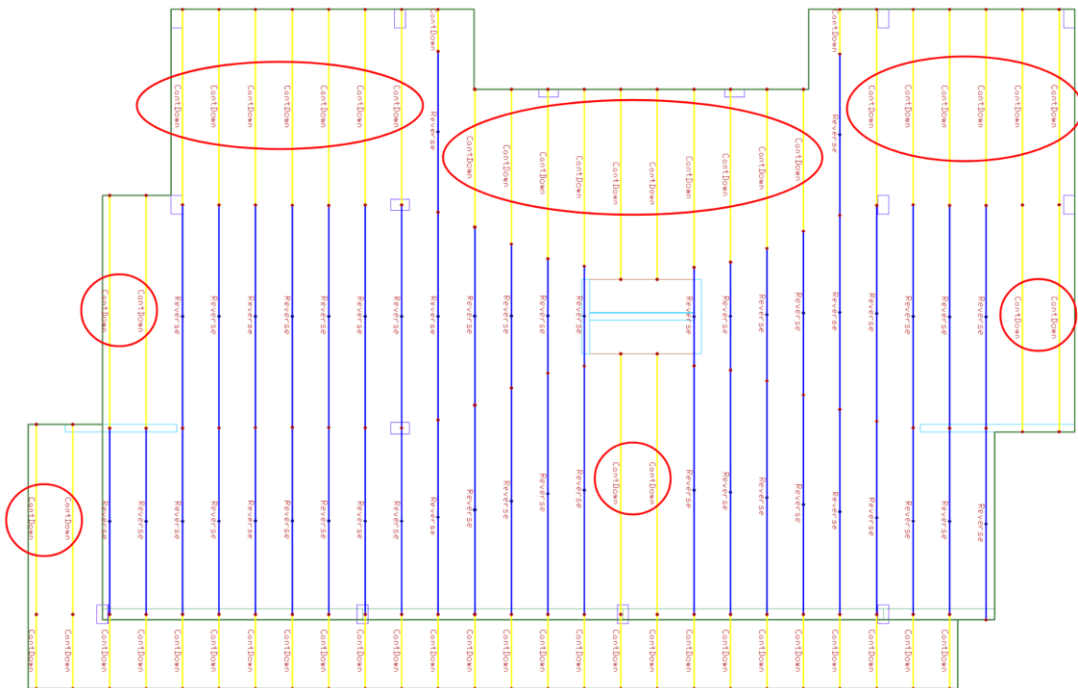

FIGURE 9-78
- Draw a two-point construction line through the spans circled in red in **FIGURE 9-78** to change them from a *Cantilever Down* shape to **Reverse Parabola**.